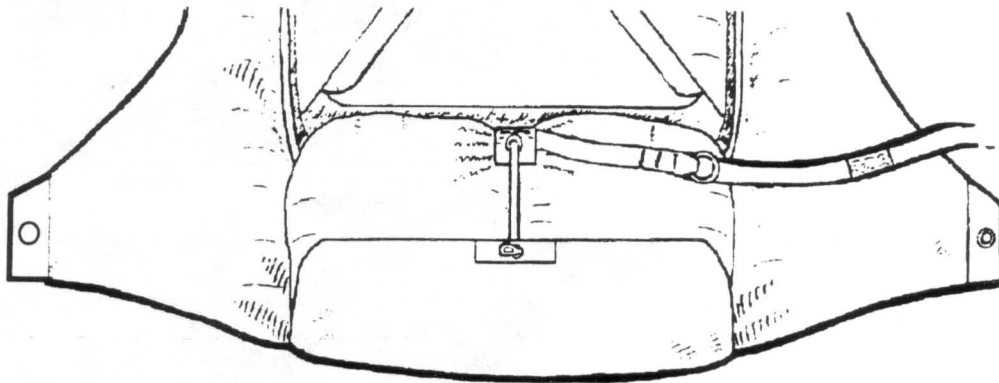

FIG. 8
- 11) Thread the pull-up cord through the closing loop and bring the closing loop over the top of the bag. The bridle should be routed to the right of the closing loop. Thread the pull-up cord through the bottom flap grommet and close the bottom flap (FIG. 8).